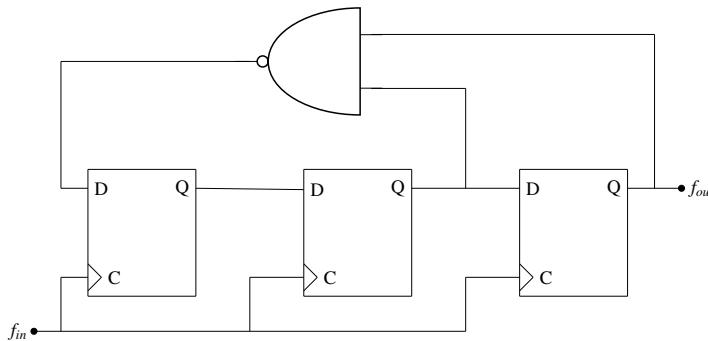

Fig. 5.24
24. Which of the following statements is true about digital circuits shown in Fig. 5.24? (Gate EE-2018,36)